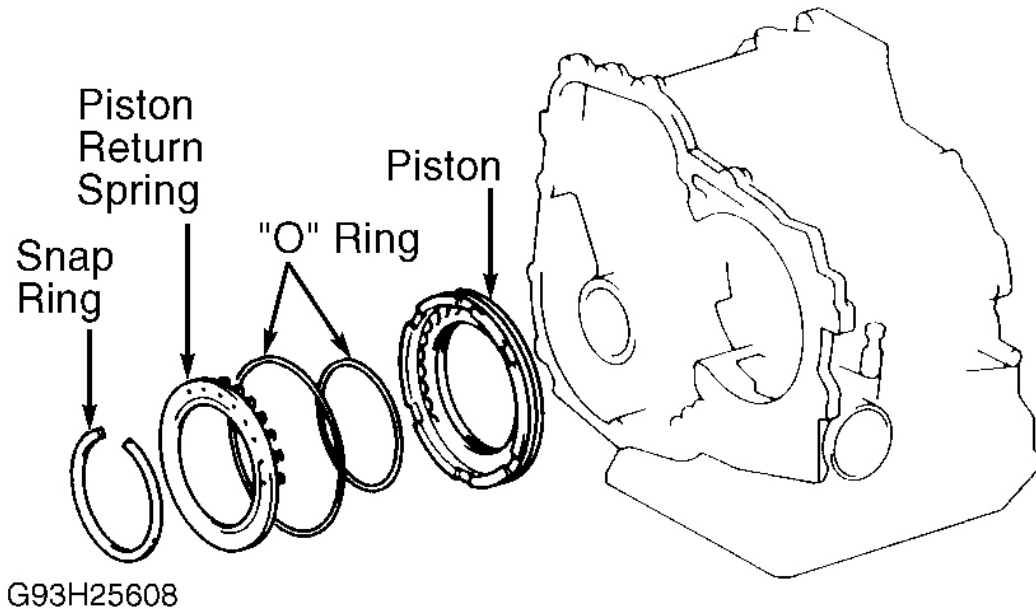

Fig. 42: Exploded View Of 2nd Coast Brake
1. Install NEW "O" rings on piston and coat with ATF. Install piston in transaxle case with spring seats facing upward. Install piston return spring assembly and snap ring in place. See **Fig. 42** .